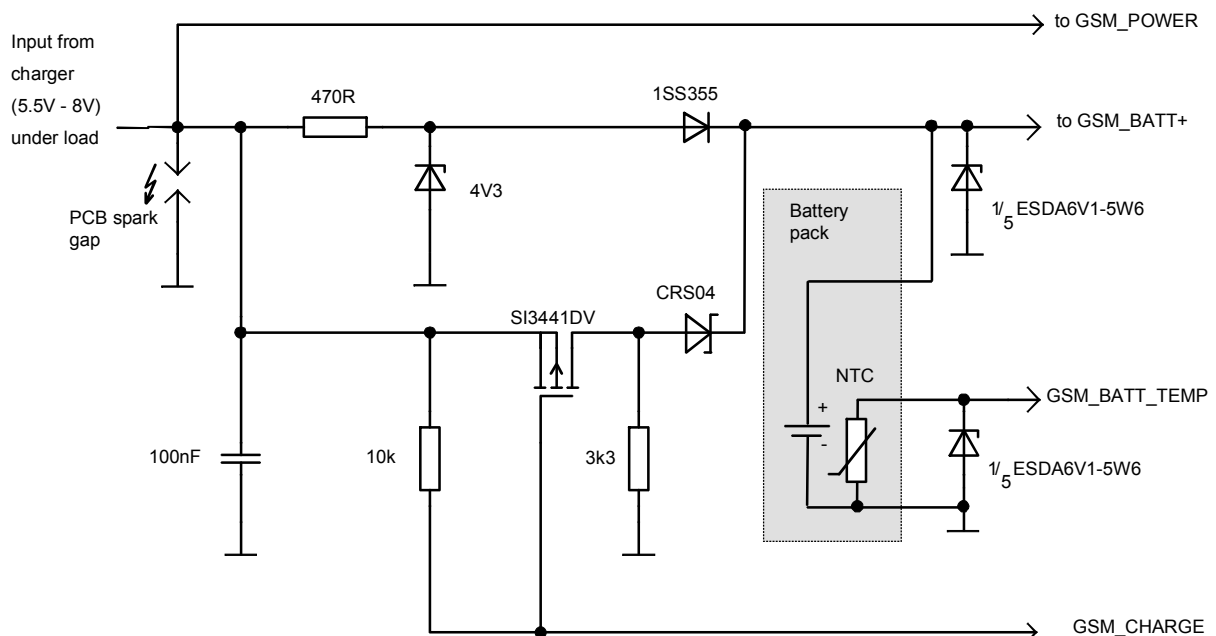

Figure 7: Schematic of approved charging transistor, trickle charging and ESD protection
*For using the trickle charging functionality you should design the 470R (illustrated in Figure 7) according to the current consumption of your application.*
The module only delivers, via its GSM\_POWER line and GSM\_CHARGE line, the control signals needed to start and stop the charging process. The charging circuit should include a transistor and should be designed as illustrated in Figure 7. A list of parts recommended for the external circuit is given in Table 7.
If the external charging circuit follows the recommendation of Figure 7, the charging process consists of trickle charging and processor controlled fast charging. For this solution, the fast charging current provided by the charger or any other external source must be limited to 500mA.
If you are using the implemented charging technique and the charging circuit recommended in Figure 7, the charger must be designed to meet the following requirements: